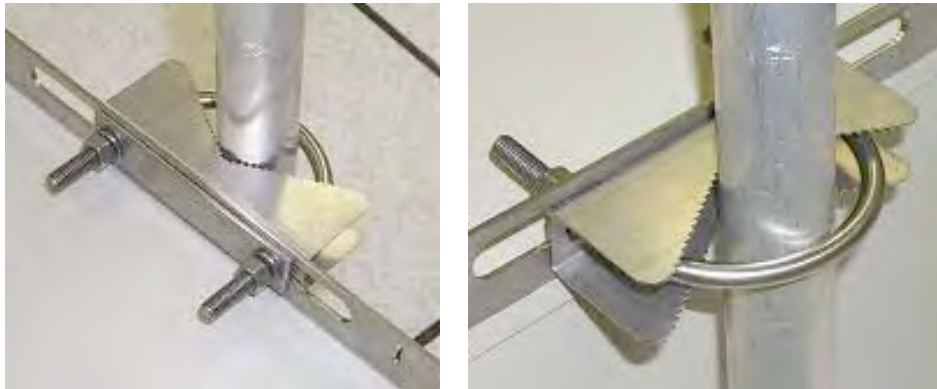

Figure 128: Detail of pole mounting
- a. attach the V-bracket to the pole as shown in Figure 128.
- d. attach the V-bracket to the pole as shown in Figure 128 on Page 338.